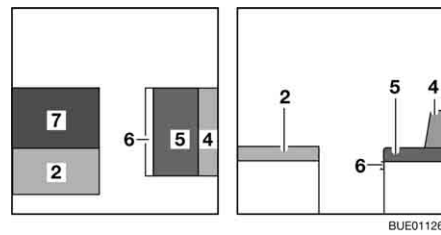

Fig. 121 During conversion
- Place the additional cushion (Fig. 121,7) on the table.